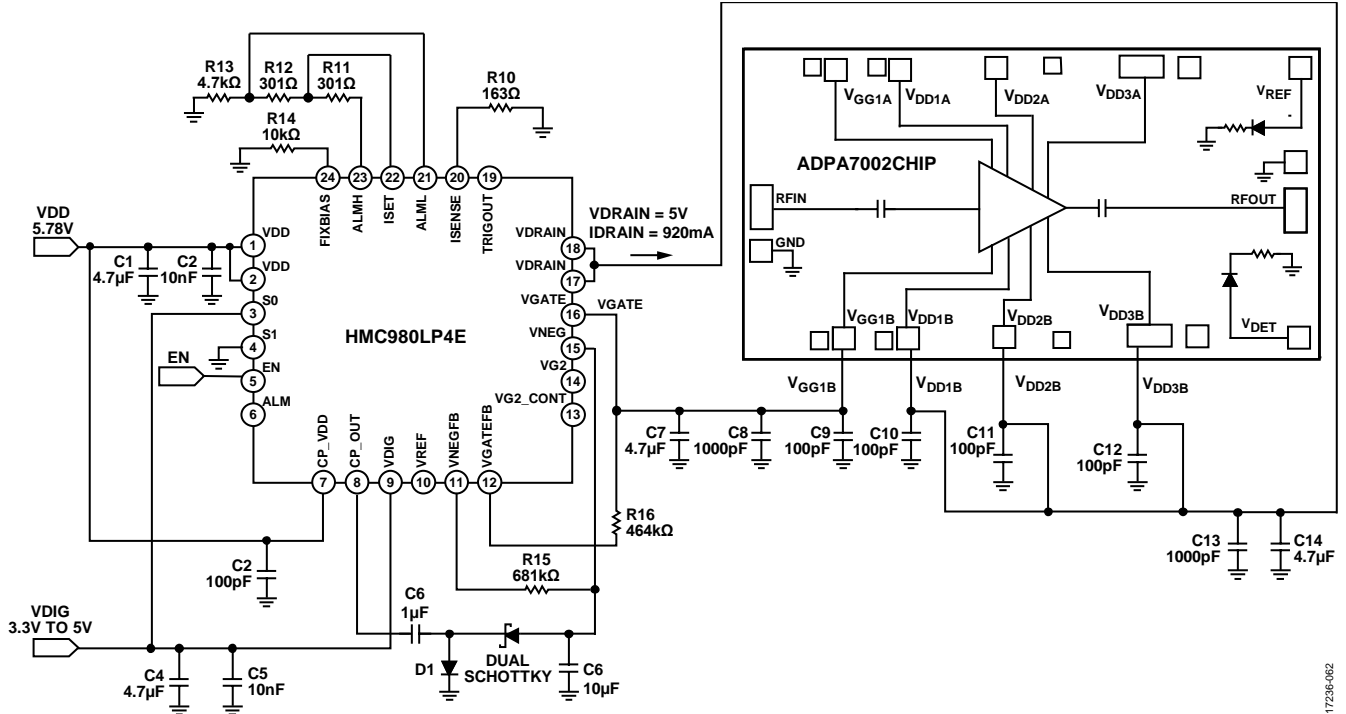
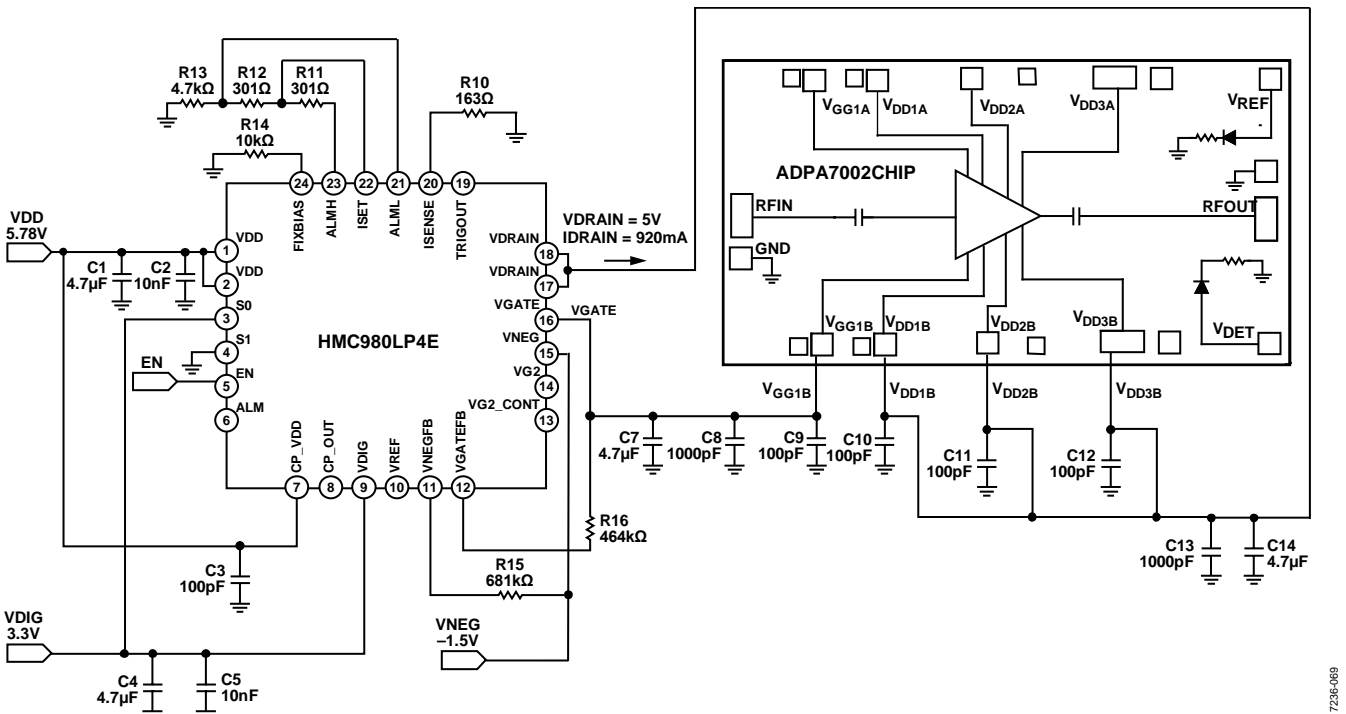

Figure 59. Application Circuit Using the HMC980LP4E with the ADPA7002CHIP
Figure 60. Application Circuit Using the HMC980LP4E with the ADPA7002CHIP as an External Negative Voltage Source
Figure 59 shows a schematic of an application circuit of the HMC980LP4E used with the ADPA7002CHIP biased at 920 mA. In this circuit, the negative gate control voltage is generated by HMC980LP4E. Figure 60 shows an application circuit using an external negative supply.
the ADPA7002CHIP V_{GGx} pad. This is accomplished by setting the R15 resistor and the R16 resistor to the values shown in Figure 59 and Figure 60. Refer to the AN-1363 application note for more information and calculations for R15 and R16.
1. Set VDIG, the voltage supply input (Pin 9) for the HMC980LP4E digital circuit (see Figure 60) to 3.3 V.
2. Set S0, the digital control pin (Pin 3) that sets the internal field effect transistor (FET) and the internal HMC980LP4E resistor (RDS) resistance (see Figure 60) to 3.3 V.